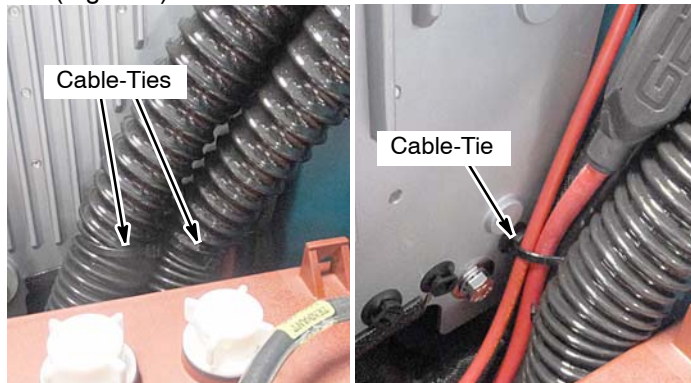

Fig. 2
4. Cut the three cable-ties that secure the vacuum hose, drain hose, and battery cables to the heat-sink panel (Figure 2).